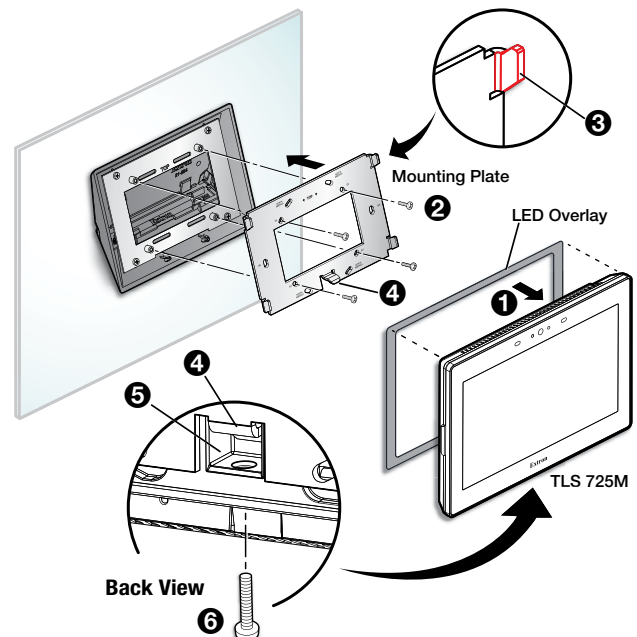

Figure 6. Mounting the TLS 725M to the AMK 2
- LED overlay (AMK 2 and AMK 3 only, see figure 6, **1**, on the next page).
- (4) M3 screws (**6**).
Figure 6 shows how to mount the TLS 725M to the AMK 2. Mount the other touchpanels to the corresponding mounting kit in exactly the same way.
- If required, remove the paper backing, and attach the LED overlay to the back of the touchpanel (see figure 6, ①). This overlay covers the rear panel LEDs so that they do not cause a distraction inside the conference room.